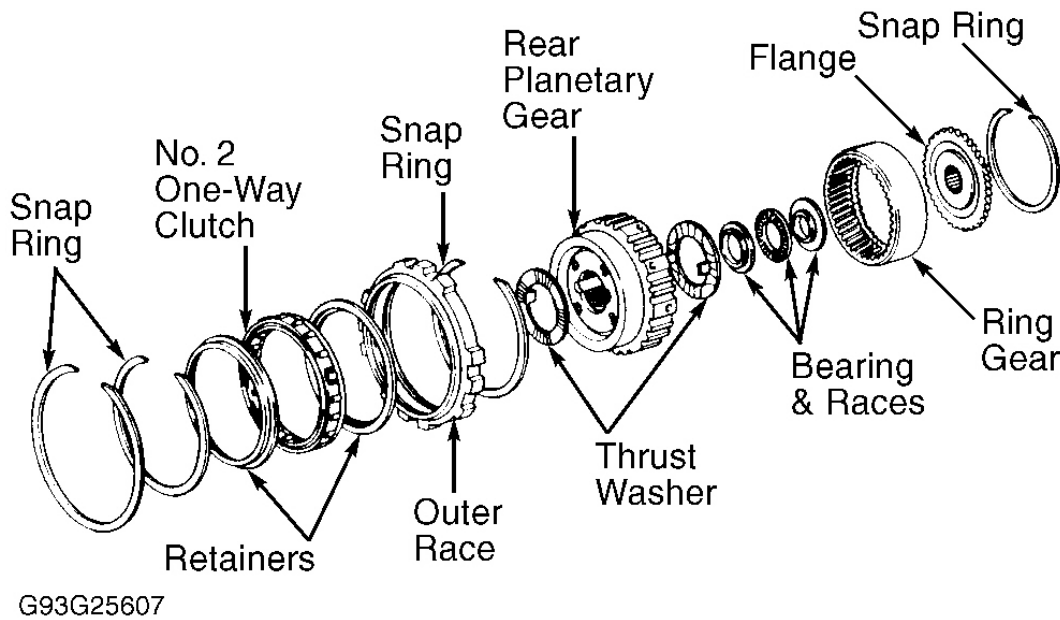

Fig. 34: Exploded View Of Rear Planetary Gear
2. Remove thrust washers from both sides of planetary gear. Separate No. 2 one-way clutch and planetary gear. Remove snap rings and side retainers from No. 2 one-way clutch. Note position of No. 2 one-way clutch and remove from outer race. See **Fig. 34** .